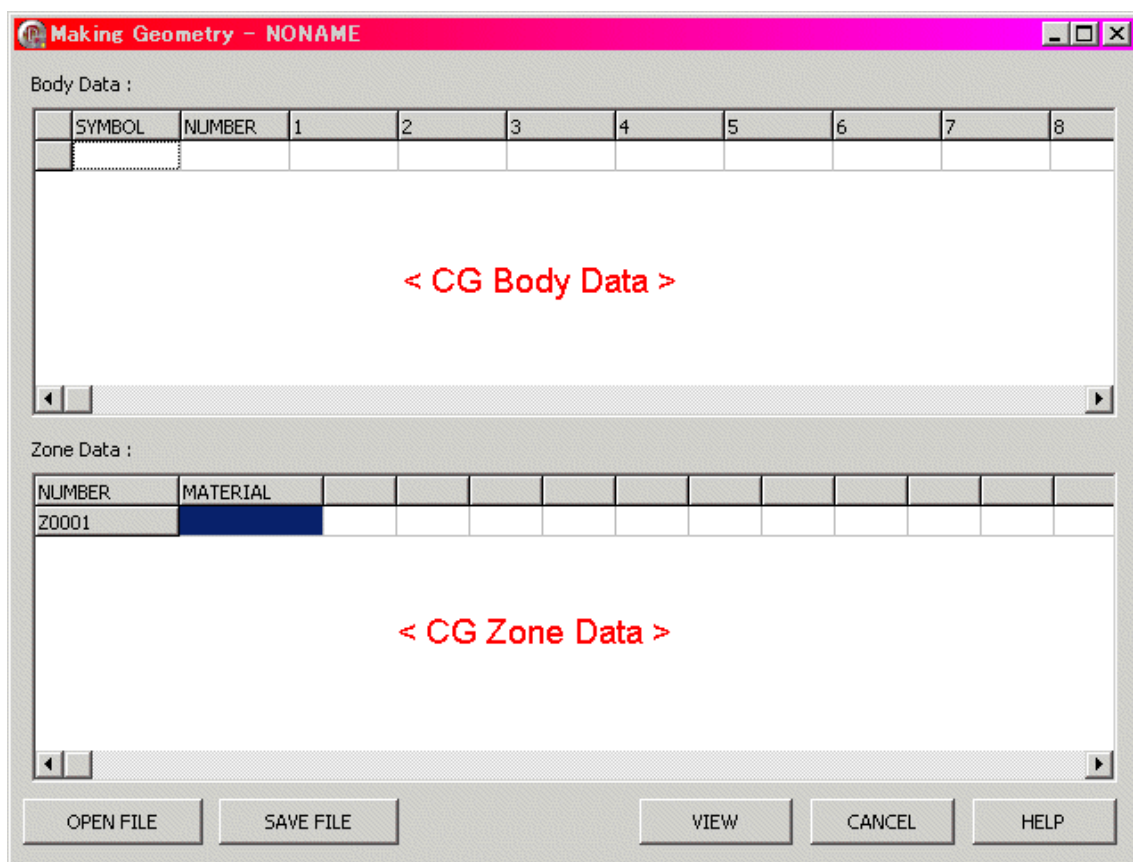

Fig.9.1-2 Window to create geometry data
Select **[File]-[Making geometry data]** in the main menu to open a window to create geometry data. Then, a window as shown in Fig.9.1-2 appears.
(caution) Number in () is parameter number in Make Geometry. (1) is input Parameter Column 1 in table in Fig9.1-2. (and so fourth)